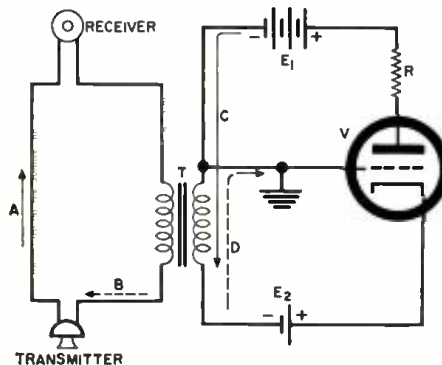

Fig. 7. Grounded-grid amplifier application.
**Grounded-Grid Amplifier.** Under certain conditions, a grounded-grid amplifier provides negative resistance. One such condition occurs in the telephone repeater amplifier, shown in simplified form in Fig. 7. This amplifier delivers power to the telephone circuit in which it "rides," instead of absorbing power,